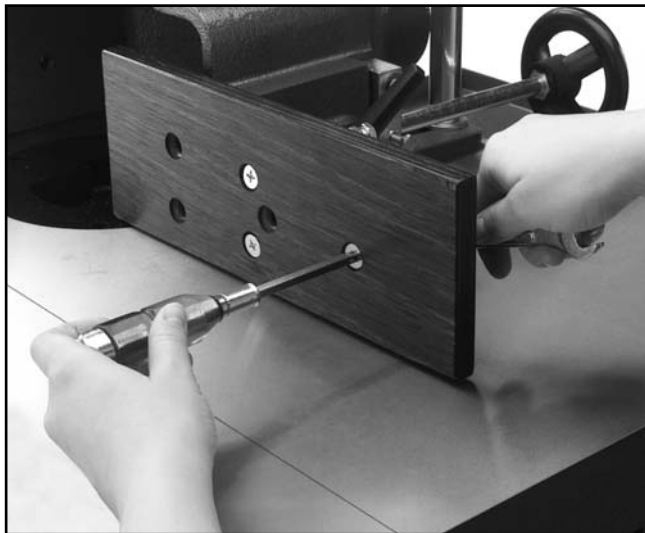

Figure 17. Attach wooden fence assembly.
1. Secure the wooden fence pieces (as shown in **Figure 17**) with the $\frac{5}{16}$ "-18 x 1" Phillips® head screws, washers, and hex nuts provided.